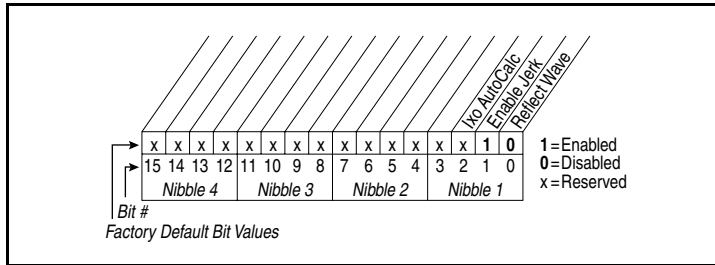

Figure 11.5 – Compensation (56)
**Range:** See figure 11.5
**Default:** See figure 11.5